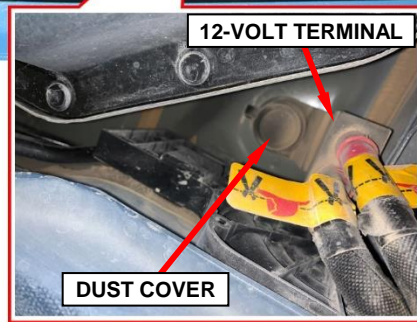

Figure 17 – 12-Volt Cable Underbody Connector Location
5. 12-volt cable underbody connector location (Figure 17).
6. Release the dust cover from the 12-volt cable terminal (Figure 17).